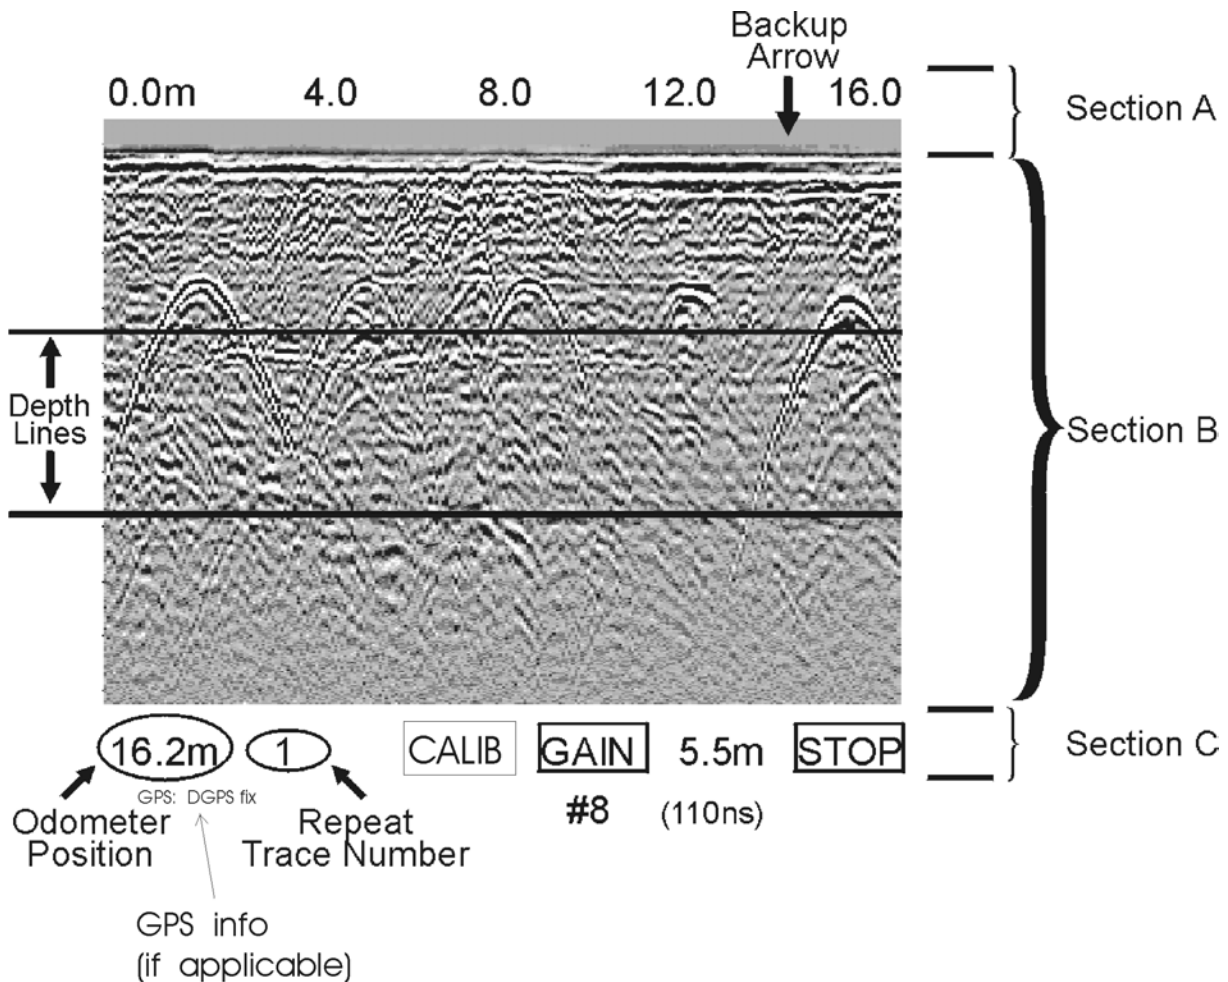

Figure: 5-1 Noggin^{plus} Data Acquisition Screen
After acquisition has started, the Start button disappears and a Stop button (used to halt acquisition) appears on the right. A Gain button is also visible as well as the current Depth setting and equivalent Time Window length in nanoseconds (see Figure 5-1).
The data acquisition screen is shown in Figure 5-1. It is divided into 3 sections.
The Noggin screen is shown in Figure 5-1. It is divided into 3 sections. The very top section (Section A) positioning information. The center section (Section B) contains the actual data and the bottom section (Section C) contains the menu.
Each data trace is plotted as a vertical strip on the screen (see Figure 5-1). The width of this strip can be changed to 1, 2, 4, or 8 pixels (see Section 5.3.3.4: p.81). The normal trace width for Noggin 250 traces is 2 pixels while the normal width for Noggin 500 and Noggin 1000 systems is 1 pixel.
During data acquisition, the current odometer position value (in the current units, either metres or feet) is written to the lower left corner of the screen (see Figure 5-1).
On the lower part of the data acquisition screen, beside the current odometer position value is a single digit number that usually displays one (1) (see Figure 5-1). This value is the Repeat Trace number.
The odometer also allows the user to stop the Smart System in the middle of a survey line and back up. When this is done, an arrow and vertical line appear on the data image and move back along the image as the system moves backwards (see Figure 5-1). This makes it possible to correlate a target in the data image to an exact location on the ground. Once the arrow lines up with the target, mark the ground at the centre point of the Noggin.